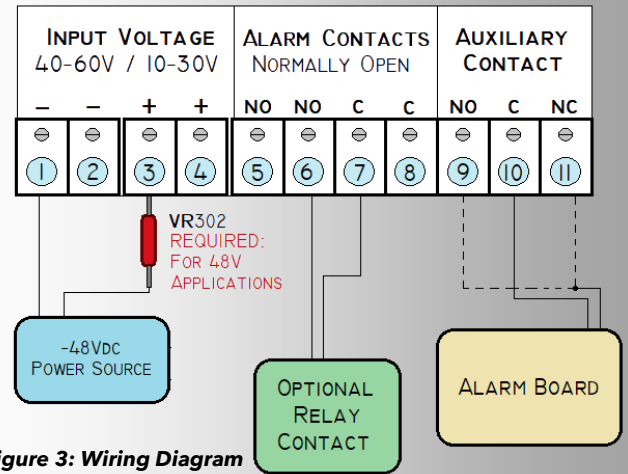

Figure 3: Wiring Diagram
- Connect the wires based on the wire diagram shown in Figure 3.